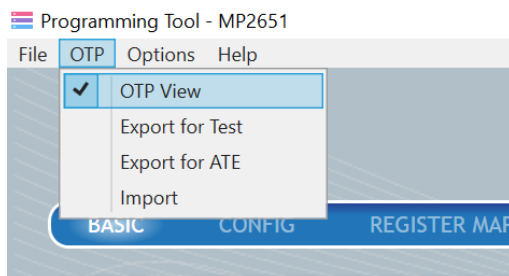

Figure 11: Select OTP
3. Select “OTP View” under OTP in the toolbar (see Figure 11).